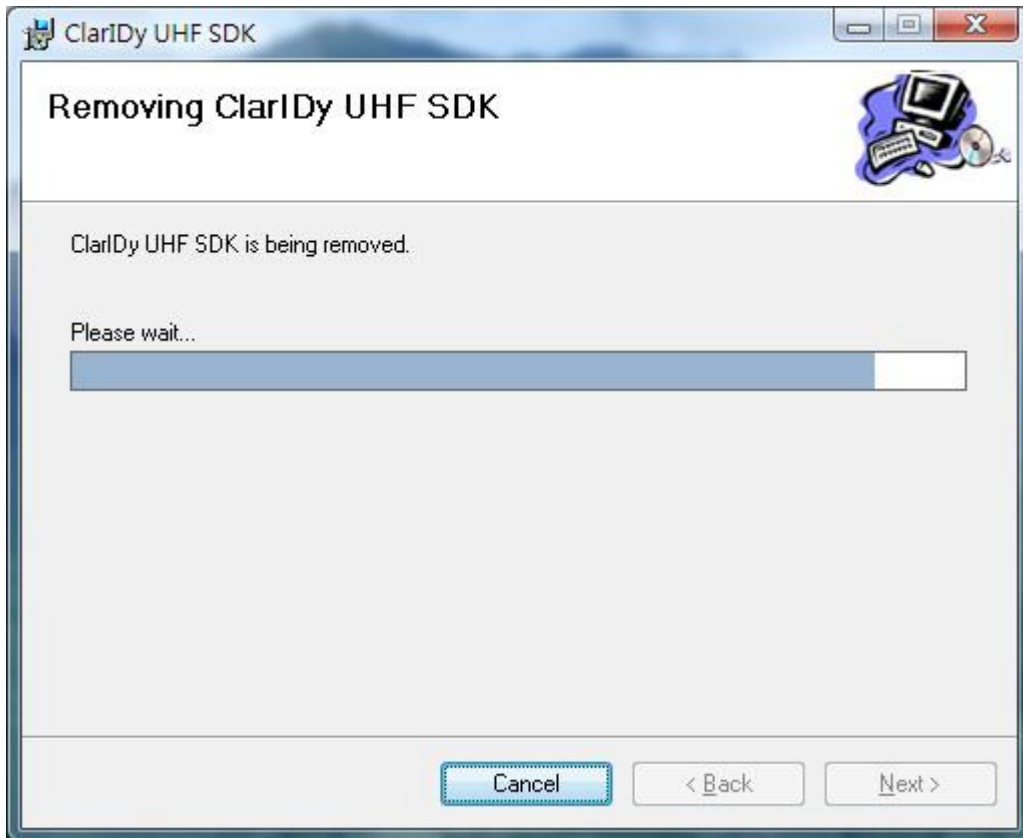

Figure 45
3. Waiting system to remove, as figure 45.